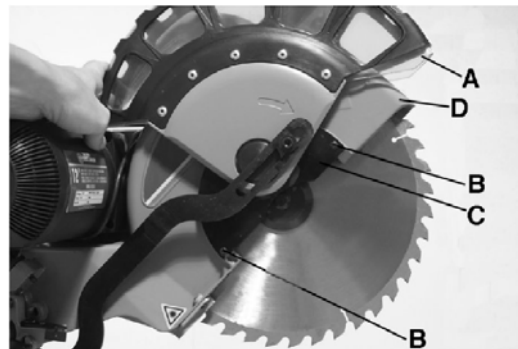

Fig. 15: Remove the protective cover
Step 3: Lift the pendulum protection cover (Pos. A, Fig. 15) and loosen the two screws (Pos. B, Fig. 15). Remove the protection cover (Pos. D, Fig. 15) and safety plate (Pos. C, Fig. 15).
Note: Ensure that the saw blade is installed in the correct direction. The tooth position must correspond to the illustration in Fig. 15. Observe the marking on the saw.